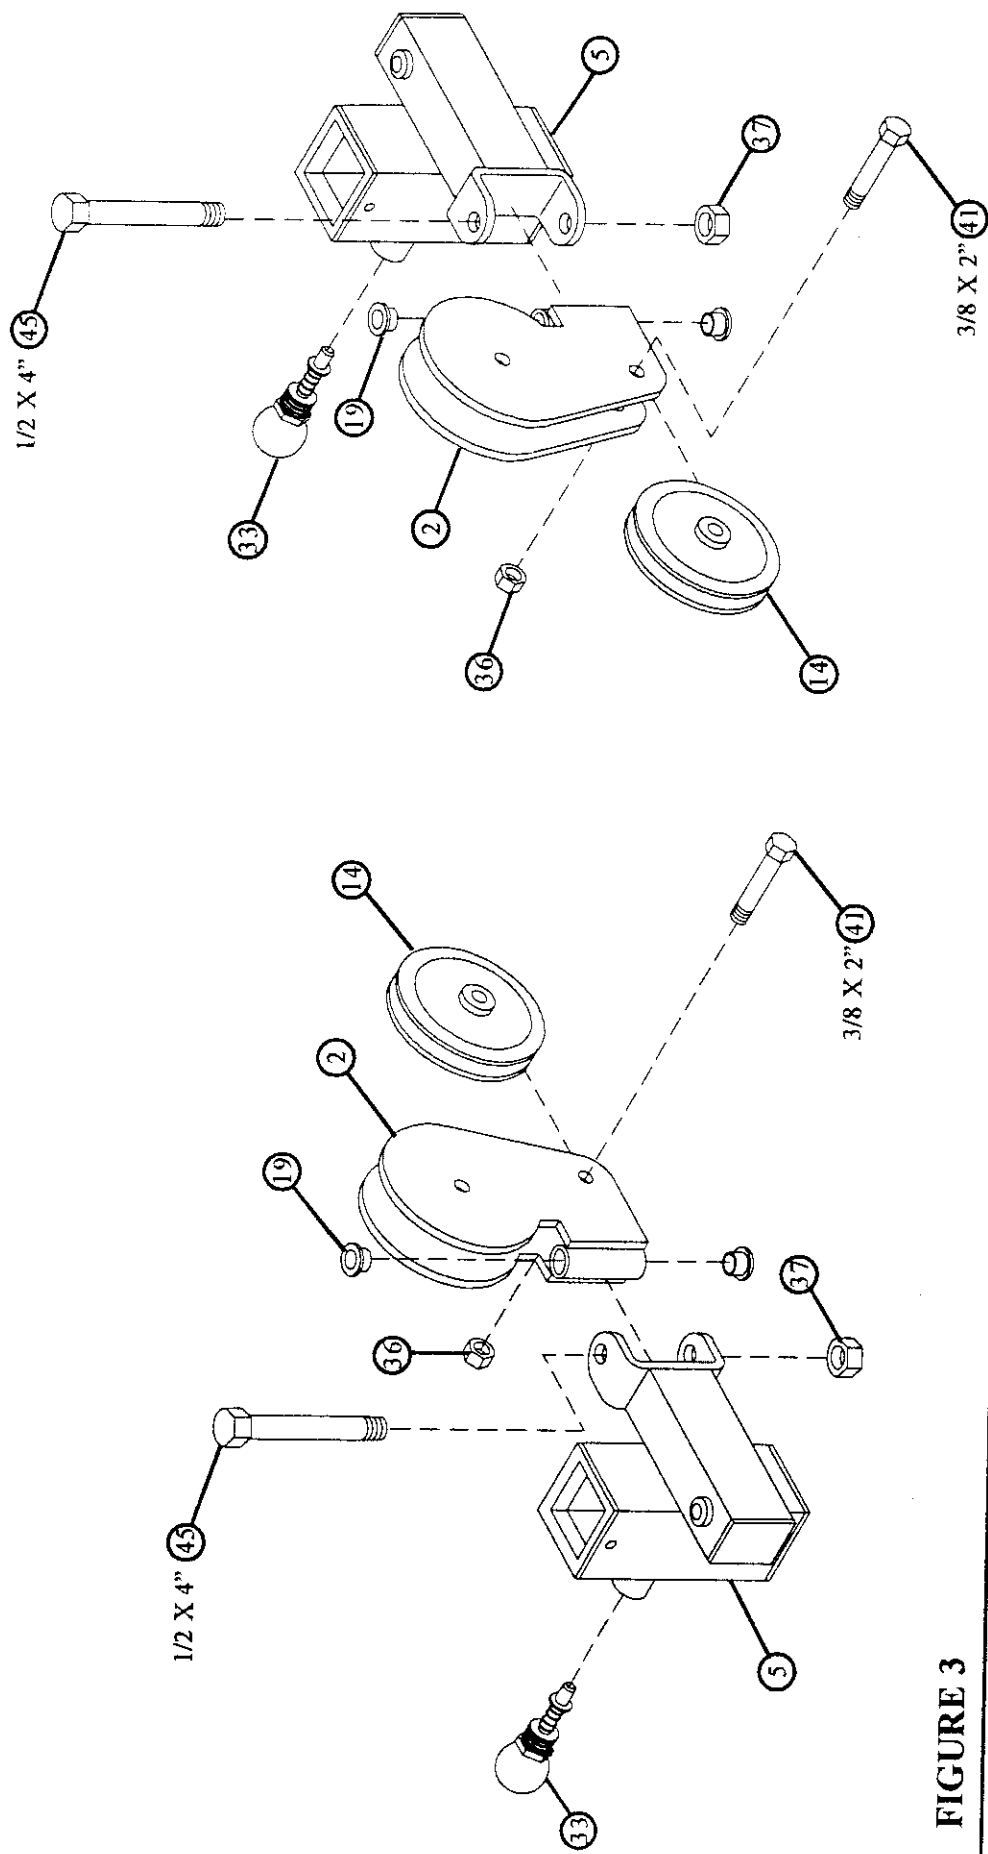

**FIGURE 2**
- LOOSELY assemble the two UPPER PULLEY HOUSINGS (8) to the two TOWERS (1) using two 1/2 X 3-1/4" BOLTS (44) and two 1/2" LOCK NUTS (37) as shown in FIGURE 2.